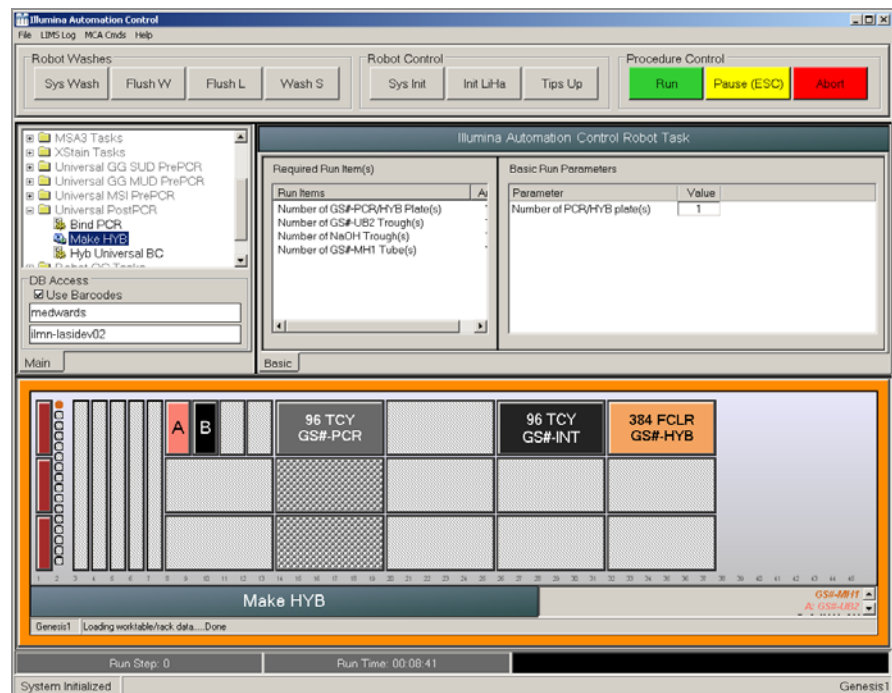

Figure 45 Universal PostPCR | Make HYB
1. From the robot PC, select **Universal PostPCR | Make HYB** (Figure 45).